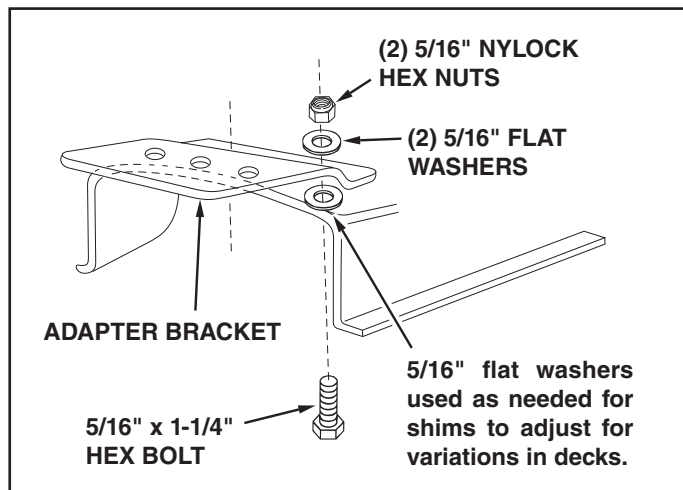

FIGURE 14
- Assemble the adapter bracket to the deck using two 5/16" x 1" hex bolts, 5/16" flat washers and 5/16" Nylock hex nuts. See figure 14.
**NOTE:** It may be necessary to use extra 5/16" flat washers to shim under the bracket next to the deck surface. Ten extra washers have been furnished as shims. See figure 14.